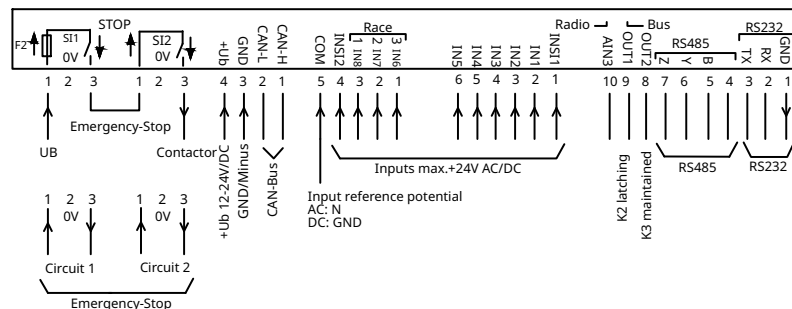

Figure 8: Connections at the RES receiver
- DE 8.4.13 The status of the switch (K2) and the button (K3) at the sender is contained in the PDO 2000 (bit 1 and 2) as well as on the digital outputs, see Figure 8. The E-Stop is